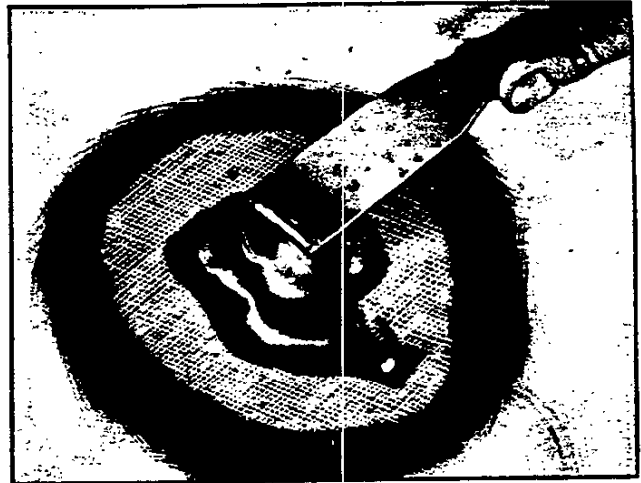

Fig. 50—Applying Plastic Solder
- Apply the material, using a putty knife or rubber squeegee, Figure 50. Work the material into the repair and build the material up to the desired